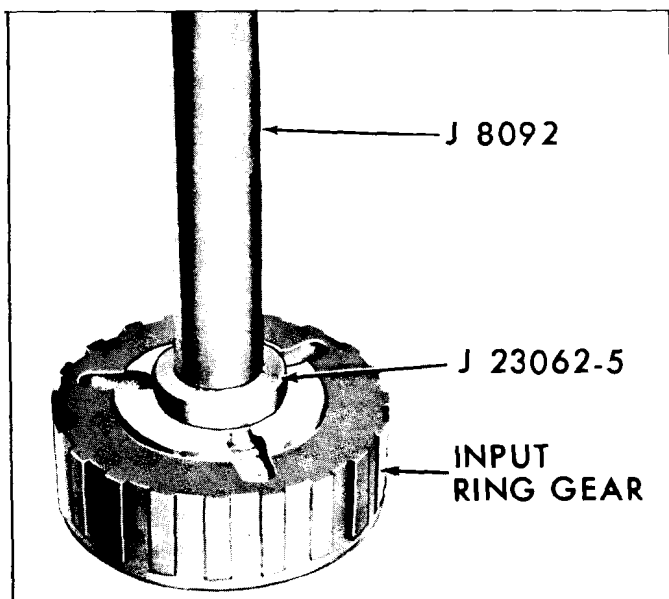

Fig. 7G-120 Removing or Installing Input Ring Gear Bushing
- a. Using Bushing Tool J 23062-5 and Drive Handle J 8092 and with input ring gear properly supported, drive out bushing (Fig. 7G-120).
- b. Using Bushing Tool J 23062-5 and Drive Handle J 8092, install new bushing to .050"-.060" below rear face, inside gear end (Fig. 7G-120).